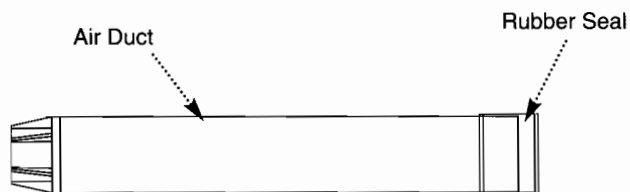

Fig. 25
10. Slide the rubber seal over the air duct with the thicker section outermost (Fig. 25). Align the seal with the end of the air duct.